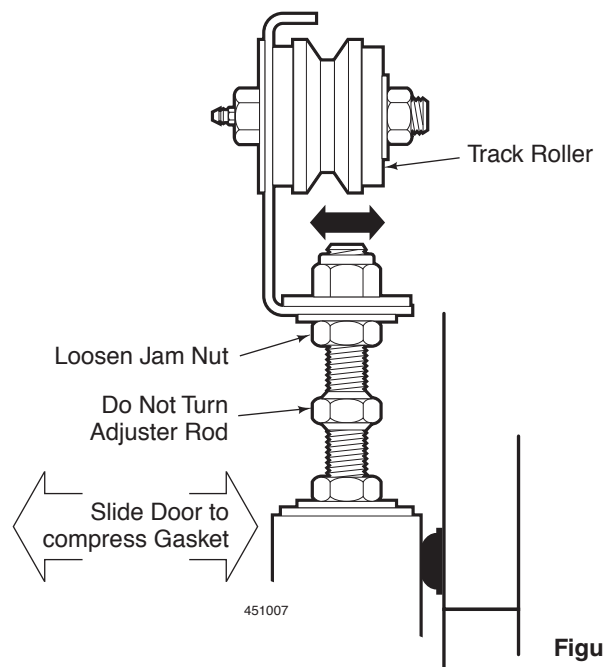

Figure 14
2. To adjust the gasket compression at the top of the door, loosen the top Jam Nut and push the door in until the gasket is properly compressed. Lock the door in place by tightening the top Jam Nut. See Figure 14.